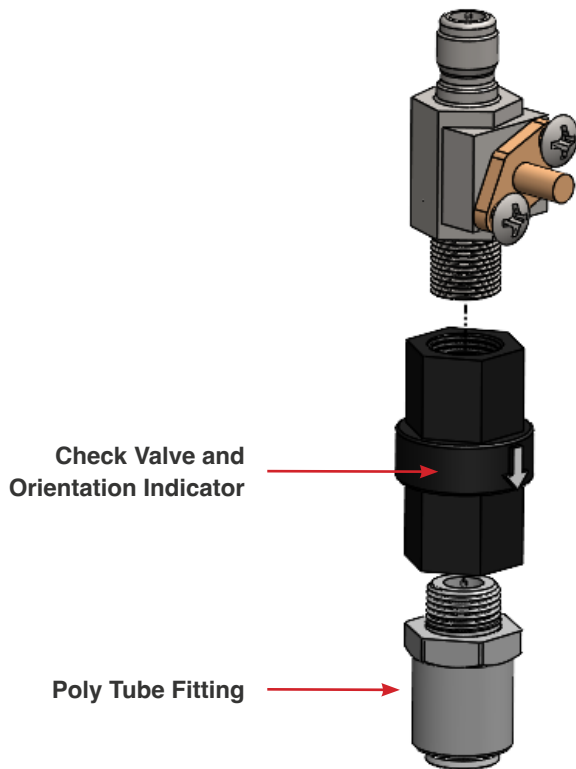

Fig. 7.3 - 1 - Check valve replacement
4. Unthread the check valve from the injector (Fig. 7.3 - 1, following page).